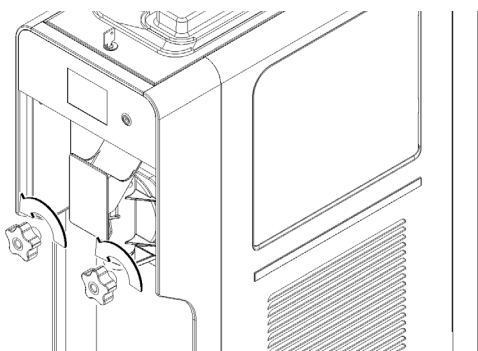

figure 19
- 5** Unscrew both fastening knobs from the tap assembly. (see figure 19)